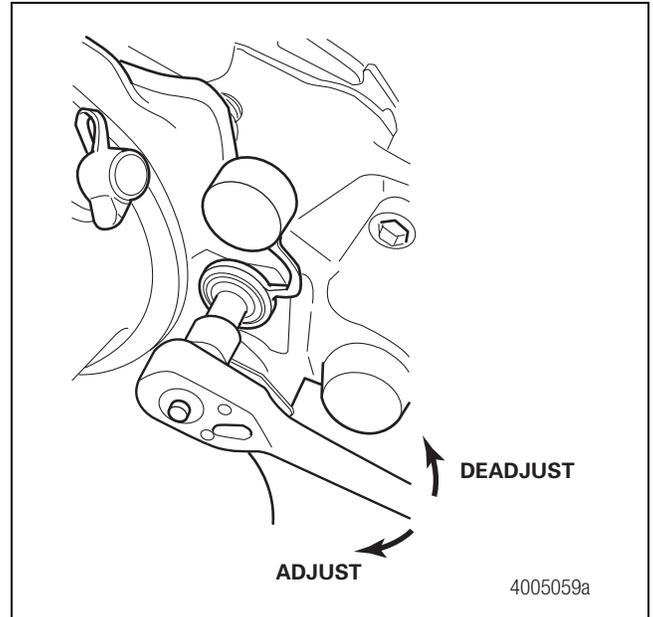

Figure 4.19
2. Use a 10 mm wrench to rotate the manual adjuster stem **CLOCKWISE** so that the brake pad-to-rotor clearance is **ZERO**. Figure 4.19.
3. Deadadjust the manual adjuster stem one half turn **COUNTERCLOCKWISE** to set the initial running clearance. Reinstall the adjuster cover. Figure 4.19.